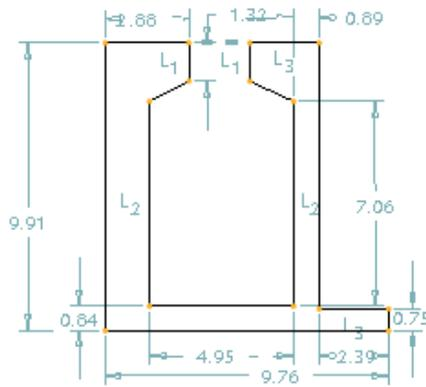

Figure 1-27 Sketch with weak dimensions and constraints
- b. Draw the sketch using the line tool, refer to Figure 1-27.
9. Now, continue drawing the remaining lines that are shown in Figure 1-27. When the sketch is complete, end line creation by pressing the middle mouse button. Notice that the sketched entities are dimensioned automatically as you draw them. These dimensions are weak dimensions and appear in gray color.
7. Select the vertex that is joining lines L and M and the vertex that is joining lines G and H. Both the vertices are aligned horizontally, as shown in Figure 1-27.
8. Select the vertex that is joining lines C and D and the vertex that is joining lines J and K. Both the vertices are aligned horizontally, as shown in Figure 1-27.